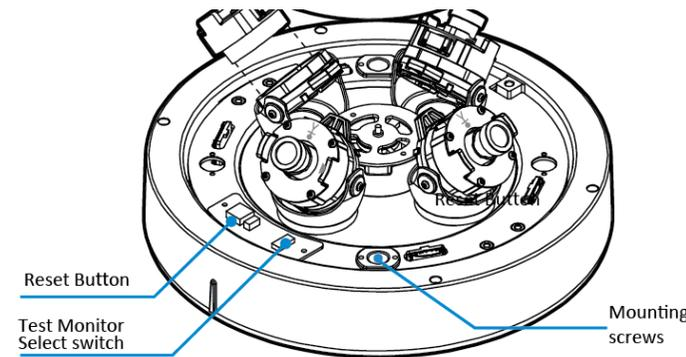

Figure 3
4. To securely attach the camera base to the mount you must insert the two mounting screws provided with the mount into the two holes on the camera base (Figure 3).